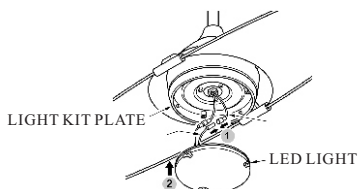

FIG.15
4. Plug together light kit wires from fan to light kit wires from LED light (see Fig. 15)